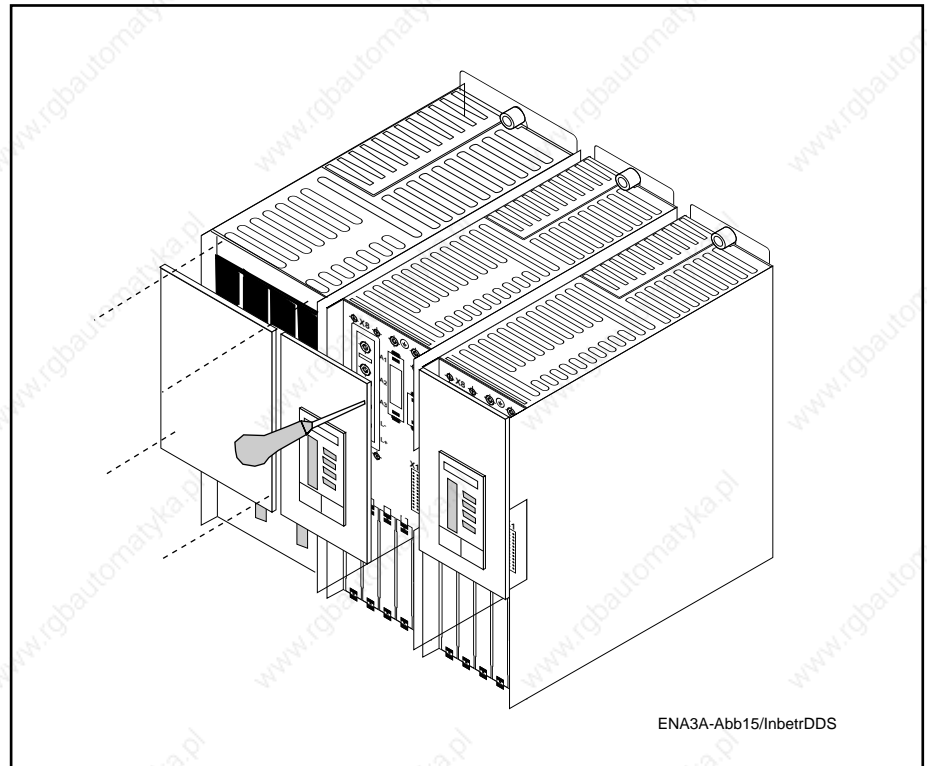

Fig. 28: Power supply module and DDS 2.1 drive controller with screwed-down transparent protective plates.
**Never operate drive controllers without the transparent protective plate in place (see. Fig. 28). All connections on terminal block X5 carry lethal voltage levels when power is switched on. The same applies to the power and DC link circuit terminals of the power supply module.**